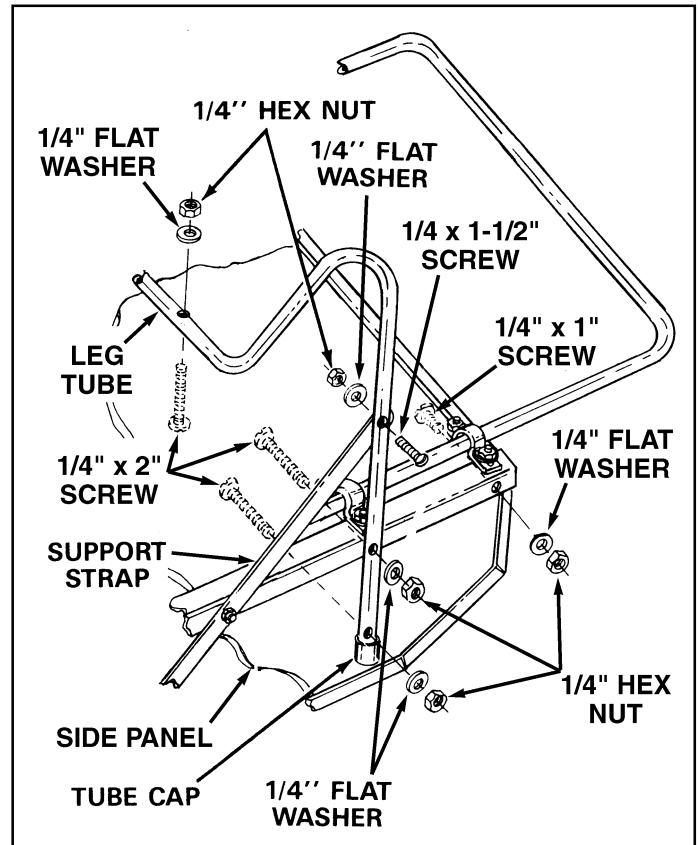

FIGURE 11
17. Insert a 1/4" x 1" screw through the hole at the rear of each side panel and the hole at the rear of each side angle. Secure with 1/4" flat washers and 1/4" hex nuts, **making only finger tight at this time.** See figure 11.
18. Place the tube caps on the ends of the "W" shaped leg tube. See figure 11.
19. With the cart still upside down, assemble the leg tube to the bottom of the cart. Line up the two holes in the center of the leg tube with the holes in the bottom of the cart. Secure the leg tube to the bottom of the cart with two 1/4" x 2" screws, 1/4" flat washers and 1/4" hex nuts. **Make only finger tight at this time.** See figure 11.
20. Attach the leg tube to the side panels with four 1/4" x 2" screws, 1/4" flat washers and 1/4" hex nuts. **Make only finger tight at this time.** See figure 11.
21. Fasten the support straps to the leg tube with two 1/4" x 1-1/2" screws, 1/4" flat washers and 1/4" hex nuts. See figure 11.
22. At this time **tighten securely** all screws and nuts assembled in figure 11.